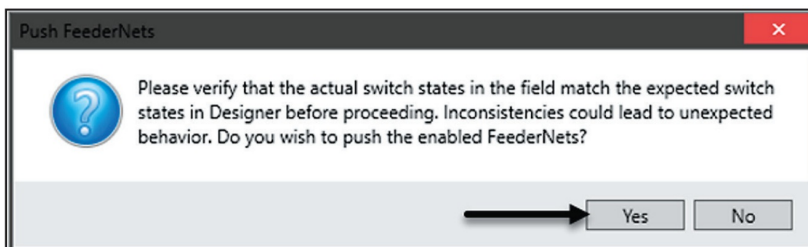

Figure 13. The Push Feeder Nets dialog box.
**STEP 2.** Push the IntelliTeam II Setpoint files by clicking on the Push button. A warning message will appear. See Figure 13. Ensure all devices have accurate switch states and then click on the Yes button to proceed.